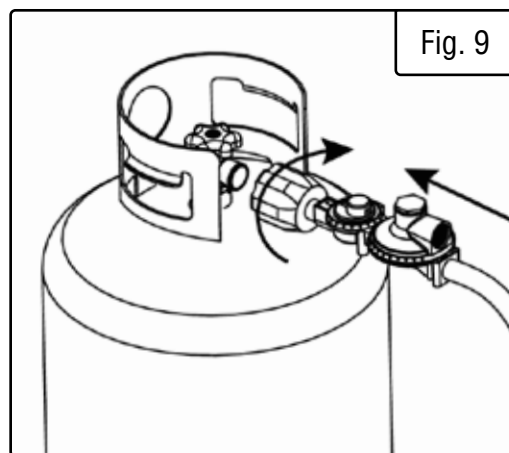

Fig. 9
2. With the LPG tank closed, attach the LPG regulator connecting hose to the valve. Turn the plastic coupling from the hose right (clockwise) to tighten hose assembly onto the LPG tank (Fig. 9).